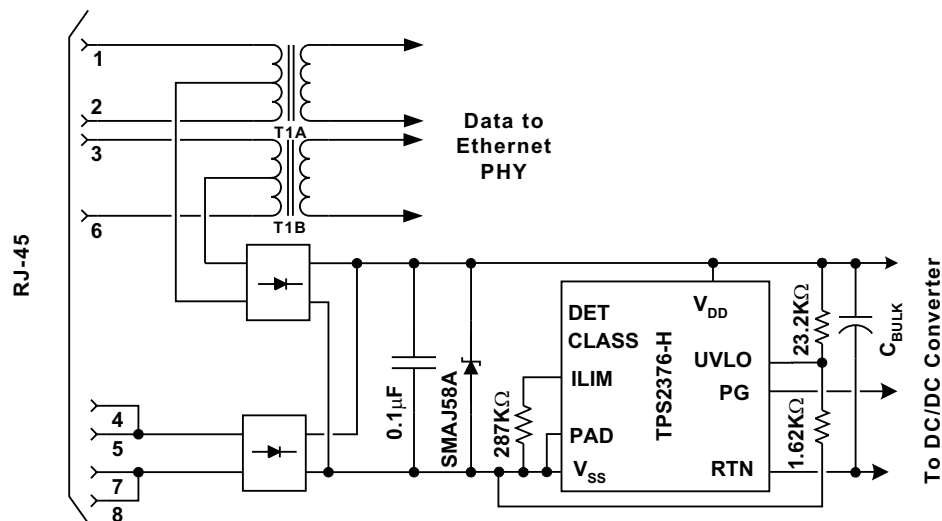

Figure 1. Typical Application Circuit
(1) Stresses beyond those listed under “absolute maximum ratings” may cause permanent damage to the device. These are stress ratings only, and functional operation of the device at these or any other conditions beyond those indicated under “recommended operating conditions” is not implied. Exposure to absolute–maximum–rated conditions for extended periods may affect device reliability.
(2) I_(RTN) = 0
(3) SOA limited to V_(RTN) = 80 V and I_(RTN) = 900 mA.
(4) Surges applied to RJ-45 of Figure 1 between pins of RJ-45, and between pins and output voltage rails per EN61000-4-2, 1999.